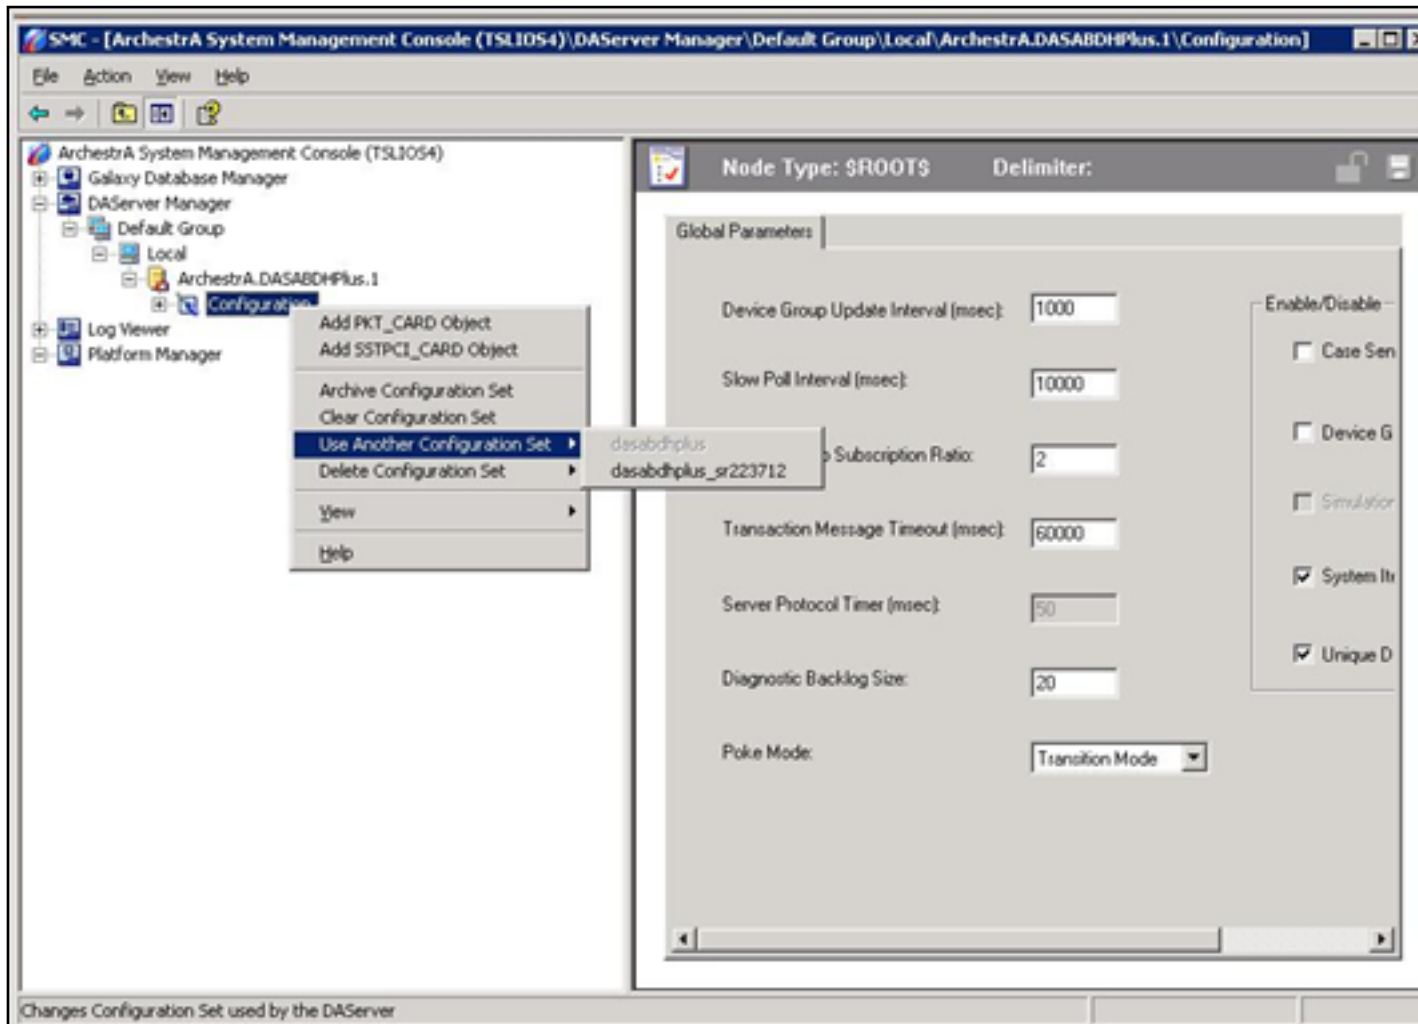

Figure 23: Use Another Configuration Set Sub-Menu Selection
5. Select **Use Another Configuration Set** (Figure 23 below).